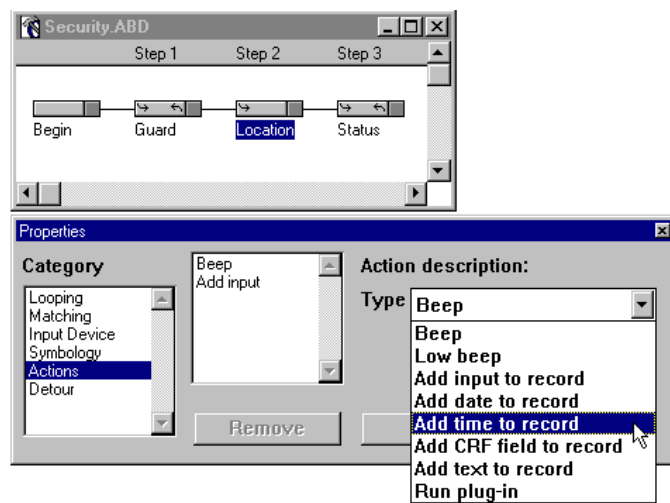

Figure 3-38 Actions Property - Add Time to Record
34. Select **Add time to record** from the **Action description** pop-up menu (Figure 3-38).